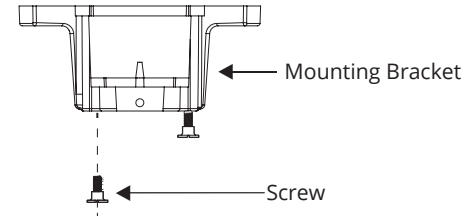

FIG.5
1. Remove 1 of 2 screws from the bottom of the mounting bracket and save for use in section 11. Loosen the other screw (FIG.5).